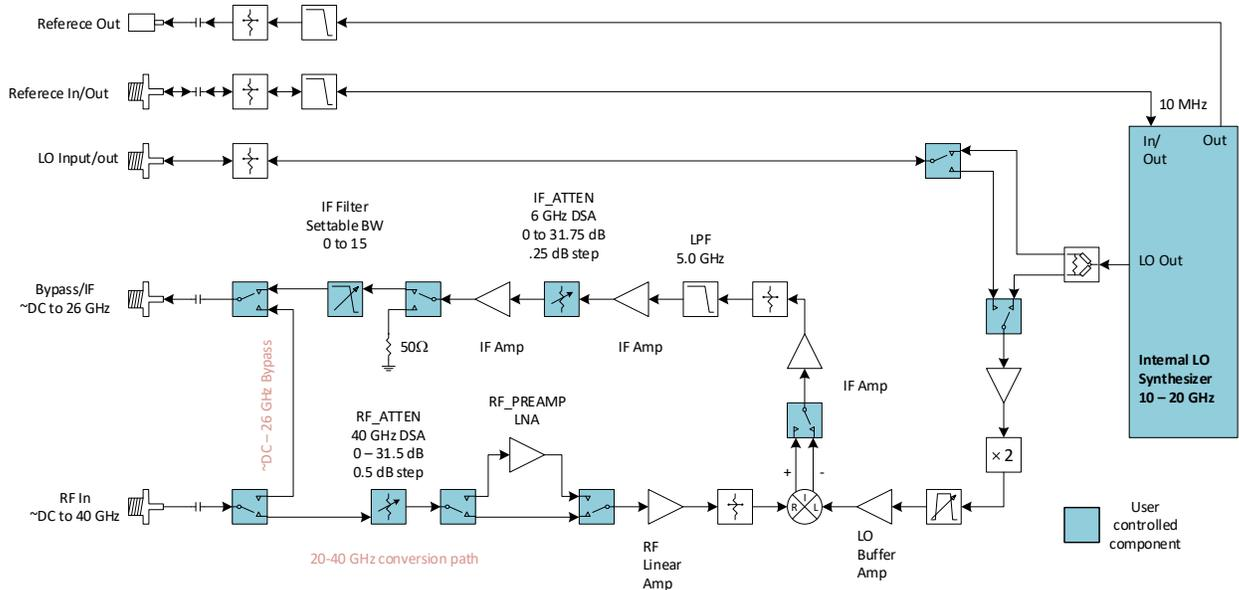

Figure 6. Block diagram of the downconverter assembly
This cascade of signal conversion and conditioning stages is often referred to as the signal chain, which is shown on the system block drawing of Figure 6.
The RF port connector is a 2.92mm (K) type rated to 40 GHz of operation. The RF port is AC coupled with a 0.1 μF broadband capacitor as indicated in Figure 6. The input frequency range at this port is from ~ 100 kHz to 40 GHz; the full range can be switched directly to the IF port, however 20 GHz to 40 GHz signals can be converted (see 3.2.3). The usability of the upper out-of-bounds region depends on the roll-off response of the mixer.